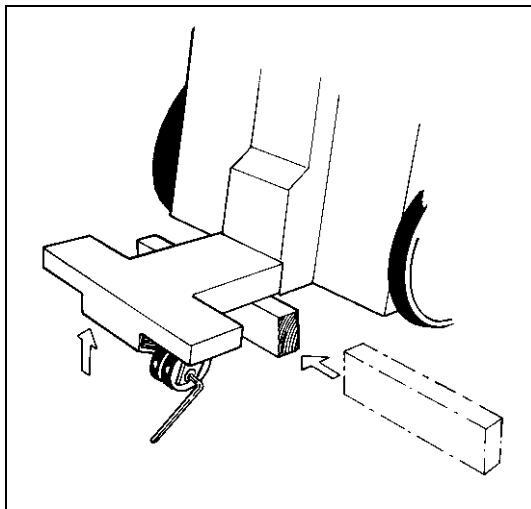

Fig. 4:
- Lift up the front wheels using the tilt bar and jack them up with a piece of wood (Fig. 4 / p. 28).
- Check that the wheels are securely mounted and that they turn freely. If necessary, tighten the Allen screws (Fig. 4 / p. 28).